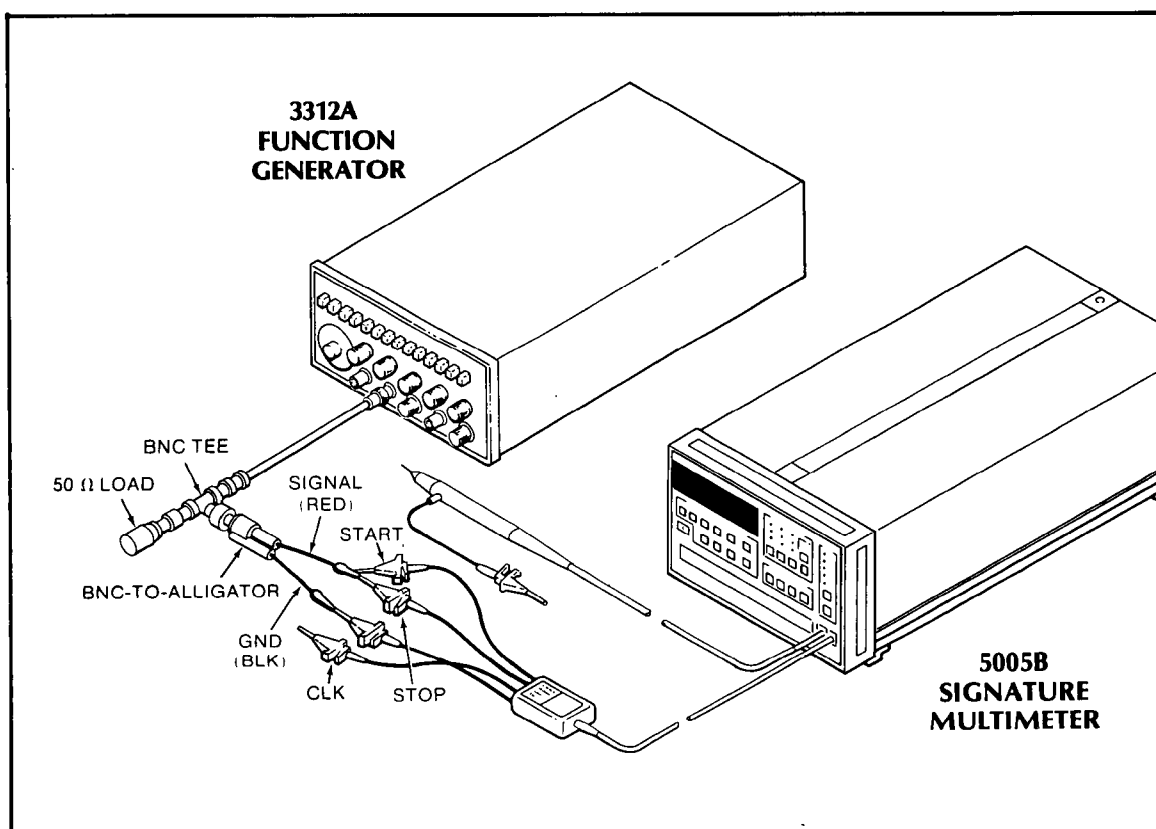

Figure 4-3. Time Interval Operation Verification Test Setup
- Connect equipment as shown in Figure 4-3.